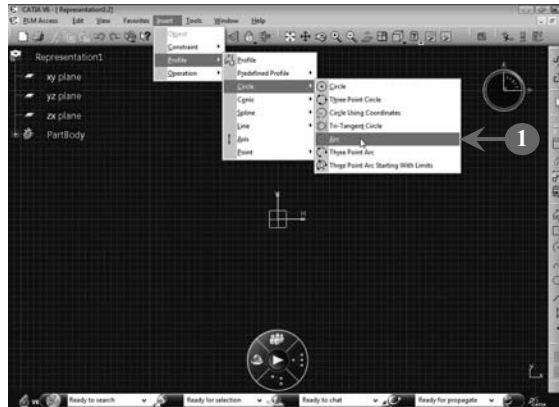

FIGURE 2.34
1. Select **Insert > Profile > Circle > Arc**, as shown in **Figure 2.34**: